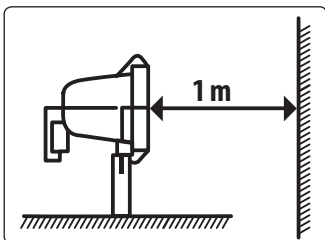
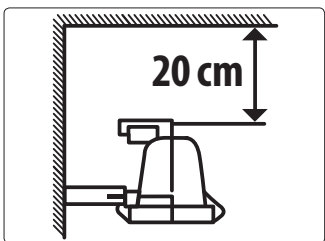

Fig. 2
Fig. 3
- Mount the floodlight at a height of 1-3 m above the ground. The direct distance of the lamp from the illuminated object should be at least 1 m (Fig. 2). When the floodlight is mounted in a corner then it must be at least 20 cm away from the ceiling (Fig. 3).